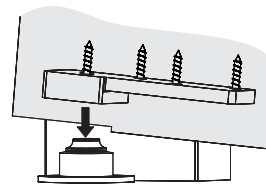

Figure 8
2. With door in open position about 90° to jamb, carefully fit door onto bottom pivot at a slight angle. (Figure 8)